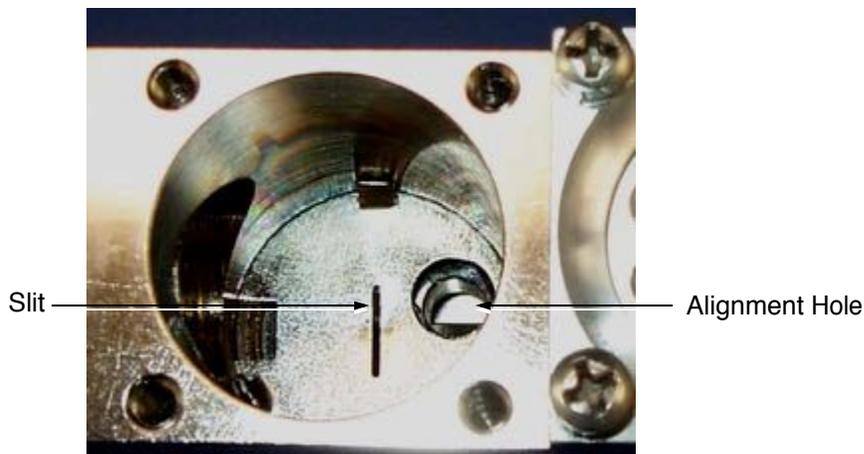

Figure 3-14 Ground Slit Plate Properly Inserted
2. Carefully place the ground slit plate into the cavity, being sure to align the slit so that it is perpendicular to the back and front of the spectrometer tube (Figure 3-14).